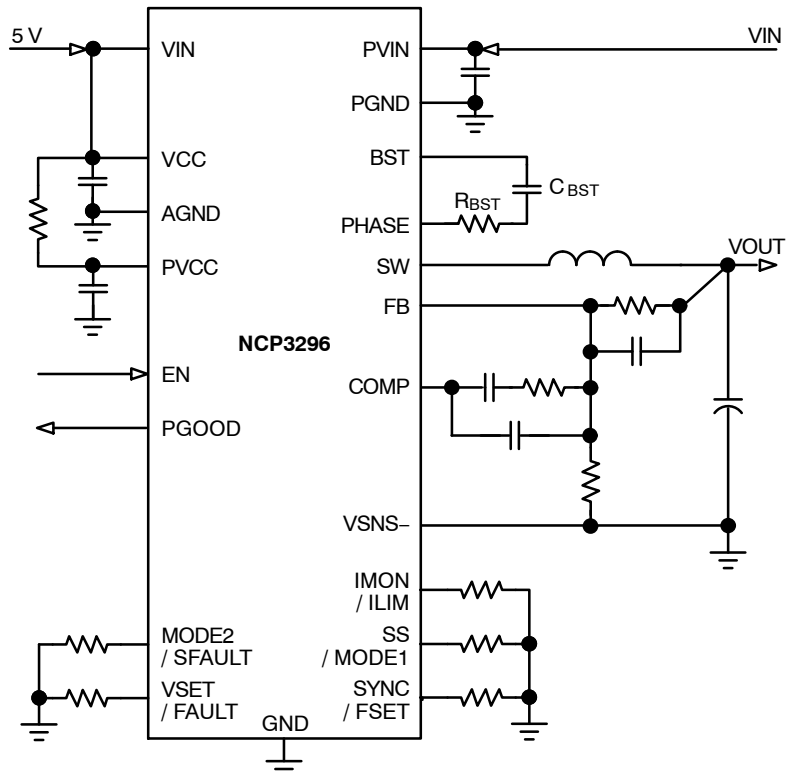

Figure 2. Typical 12 V_{IN}, 40 A Application Circuit with External 5 V VCC Supply (LDO Disabled)
5. Operation at <4.5 V_{IN} requires external 5 V supply be applied to the VIN and VCC pins per Figure 2.